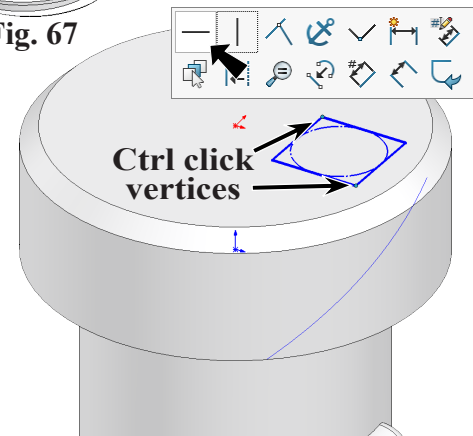

Fig. 70
Step 6. **Ctrl click opposite vertices of polygon** and click **Make Horizontal**  on the context toolbar, **Fig. 70**.